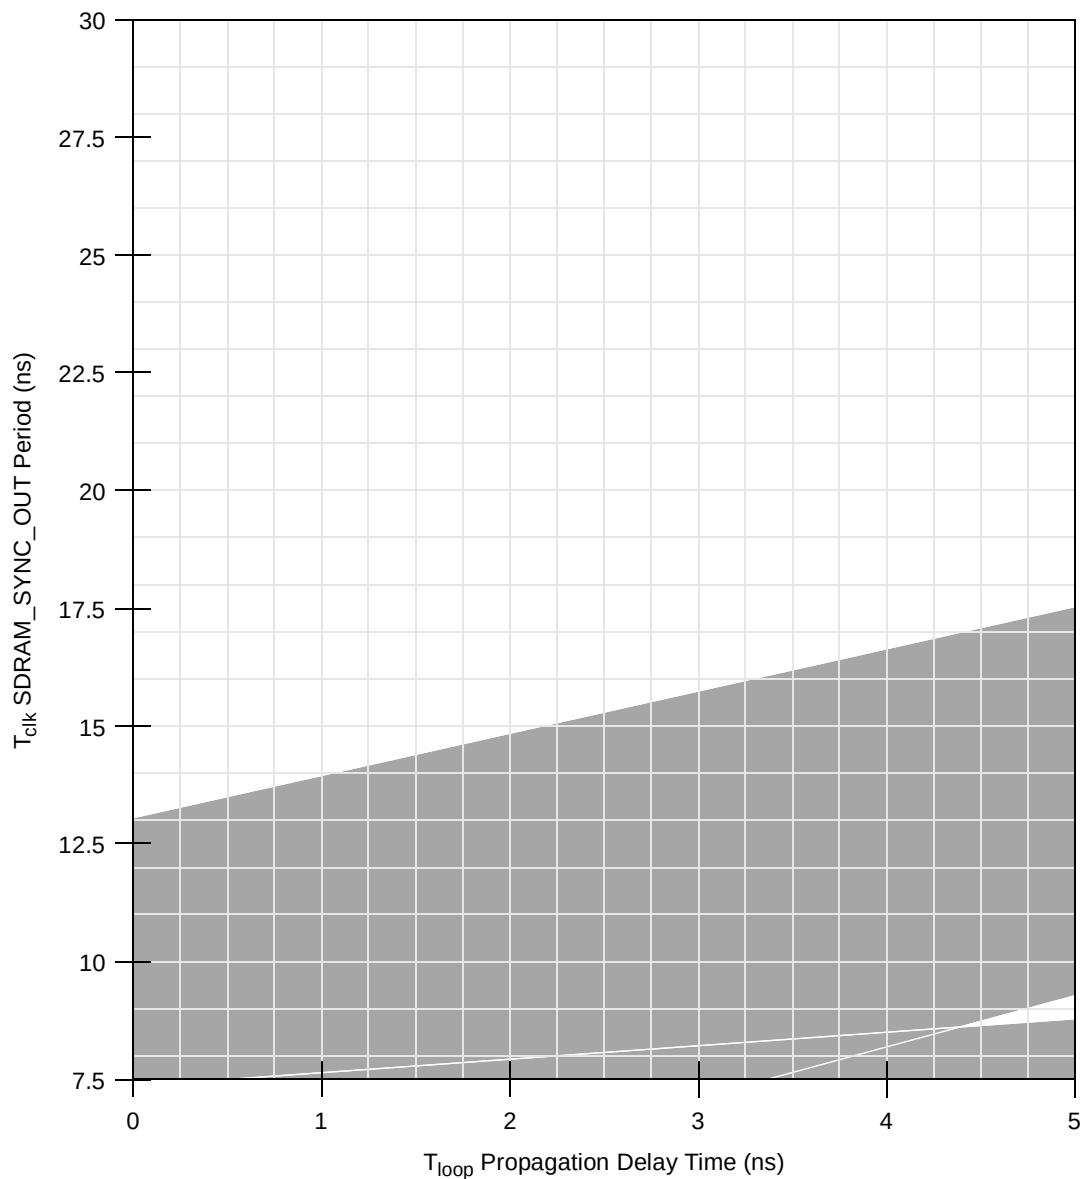
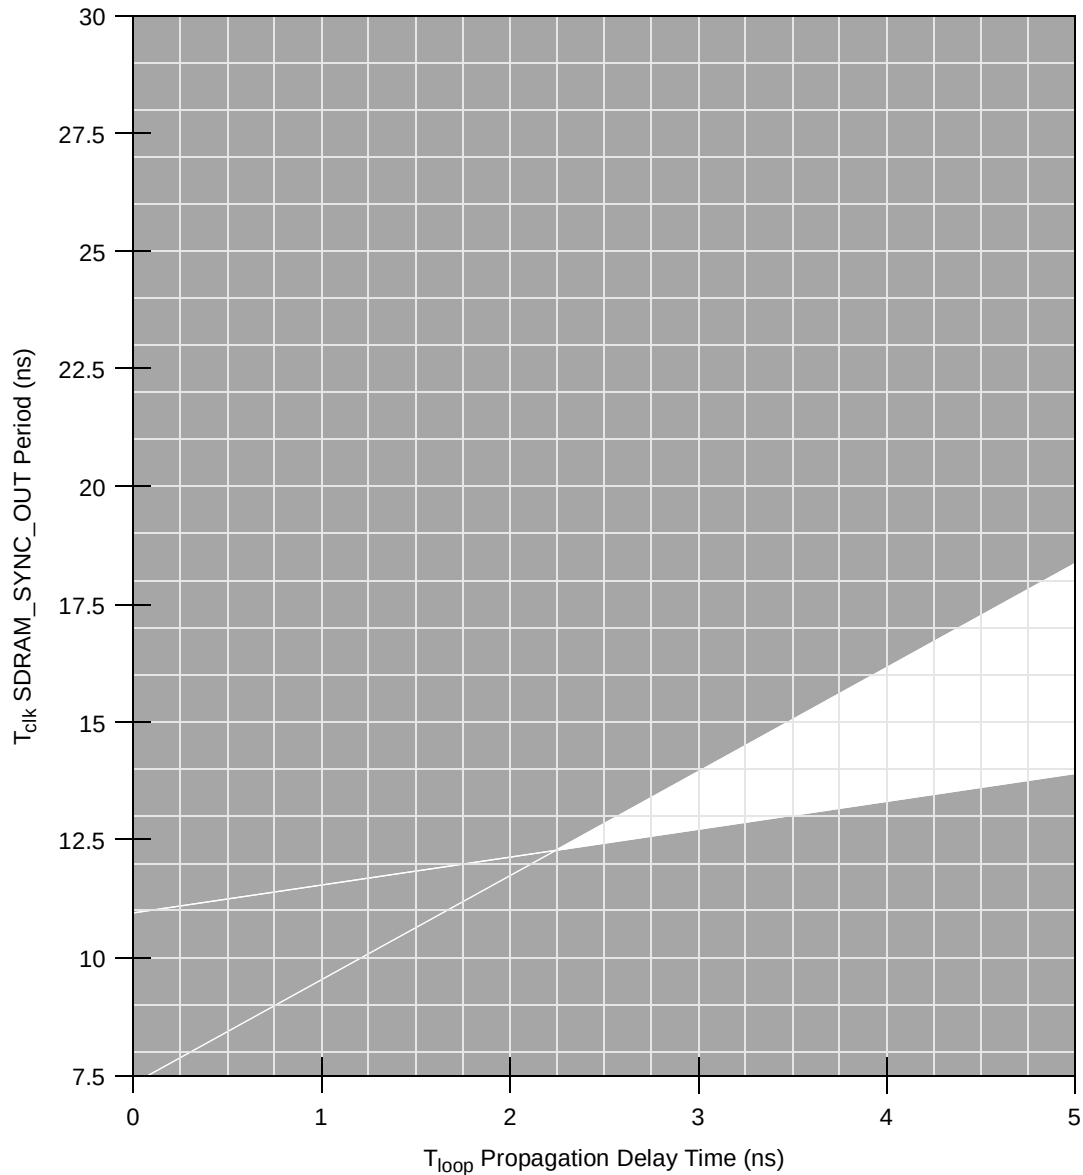

Figure 7. DLL Locking Range Loop Delay Versus Frequency of Operation for DLL_Extend=0 and Normal Tap Delay
Figure 10. DLL Locking Range Loop Delay Versus Frequency of Operation for DLL_Extend=1 and Max Tap Delay
6. DLL_EXTEND is bit 7 of the PMC2 register <72>. *N* is a non-zero integer (see Figure 7 through Figure 10). T_{clk} is the period of one SDRAM_SYNC_OUT clock cycle in ns. T_{loop} is the propagation delay of the DLL synchronization feedback loop (PC board runner) from SDRAM_SYNC_OUT to SDRAM_SYNC_IN in ns; 6.25 inches of loop length (unloaded PC board runner) corresponds to approximately 1 ns of delay. For details about how Figure 7 through Figure 10 may be used refer to the Freescale application note AN2164, *MPC8245/MPC8241 Memory Clock Design Guidelines*, for details on MPC8245 memory clock design.
Figure 7 through Figure 10 show the DLL locking range loop delay vs. frequency of operation. These graphs define the areas of DLL locking for various modes. The gray areas show where the DLL locks.